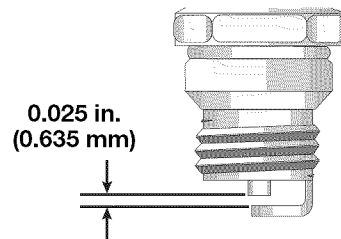

Fig. 43
3. Replace a cracked, fouled or dirty spark plug. Set the air gap at **0.025 in. (0.635 mm)** using a feeler gauge (Fig. 43).